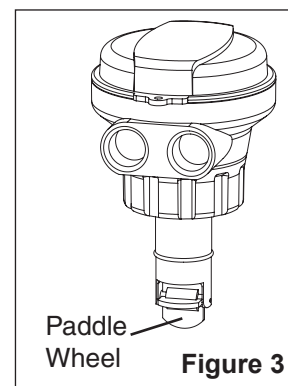

Figure 3
3. Clean the paddle wheel (see **Figure 3**) located at the bottom of the flow meter.